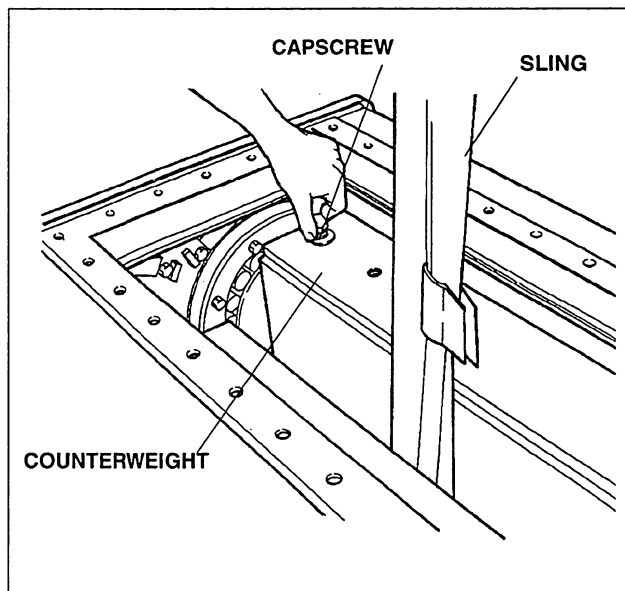

Figure 4-3. Removing Counterweights
1. Remove nuts (26), washers (27), and capscrews (28). Remove cover (25). Remove and discard gasket (24).
2. Remove capscrews (16), washers (17), and remove counterweights (15). See Figure 4-3.
3. At the sheave end of shaft (48), remove capscrow (59), washer (58) and retaining washer (57).
4. Remove the sheave assembly (55) as follows:
- C. When the sheave hub is loose, slide the hub and key (56) from the shaft.
5. Pull labyrinth seal collar (53), and wear sleeve (52) from shaft (48). Remove key (54) from the shaft.